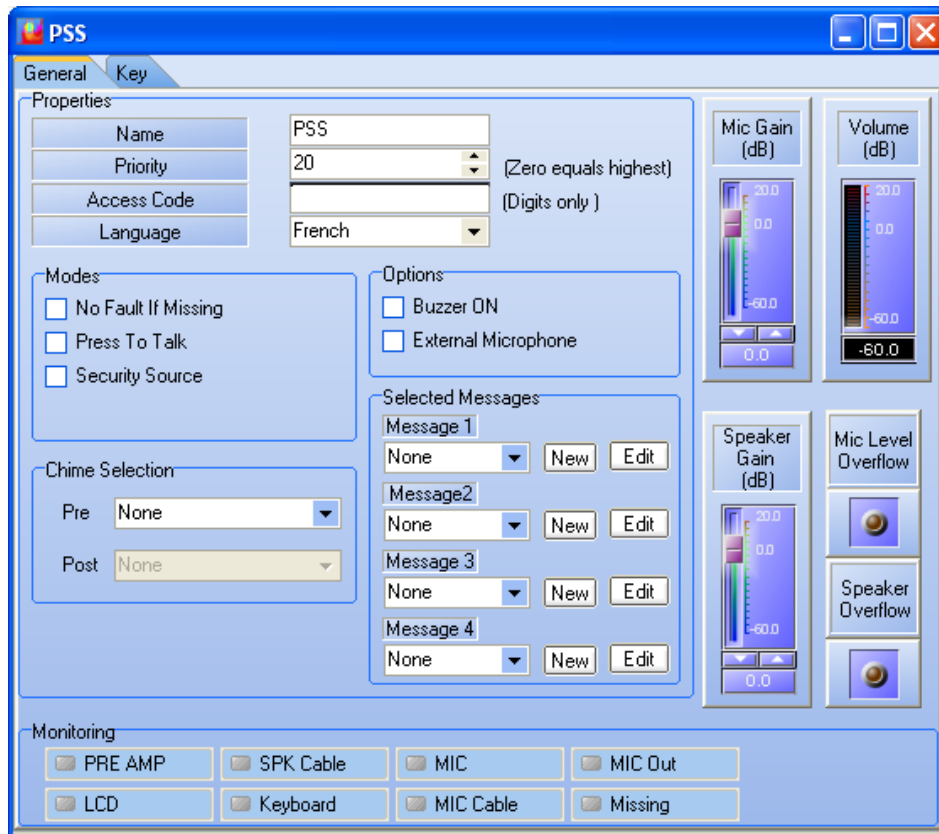

Figure 33: PSS Window
- Double click the icon. The PSS window will open (Figure 33).